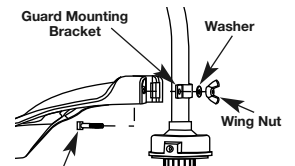

Fig. 5
- From inside the cutting attachment shield, push the square bolt through the hole until the threaded end protrudes through the guard mounting bracket (Fig. 5).